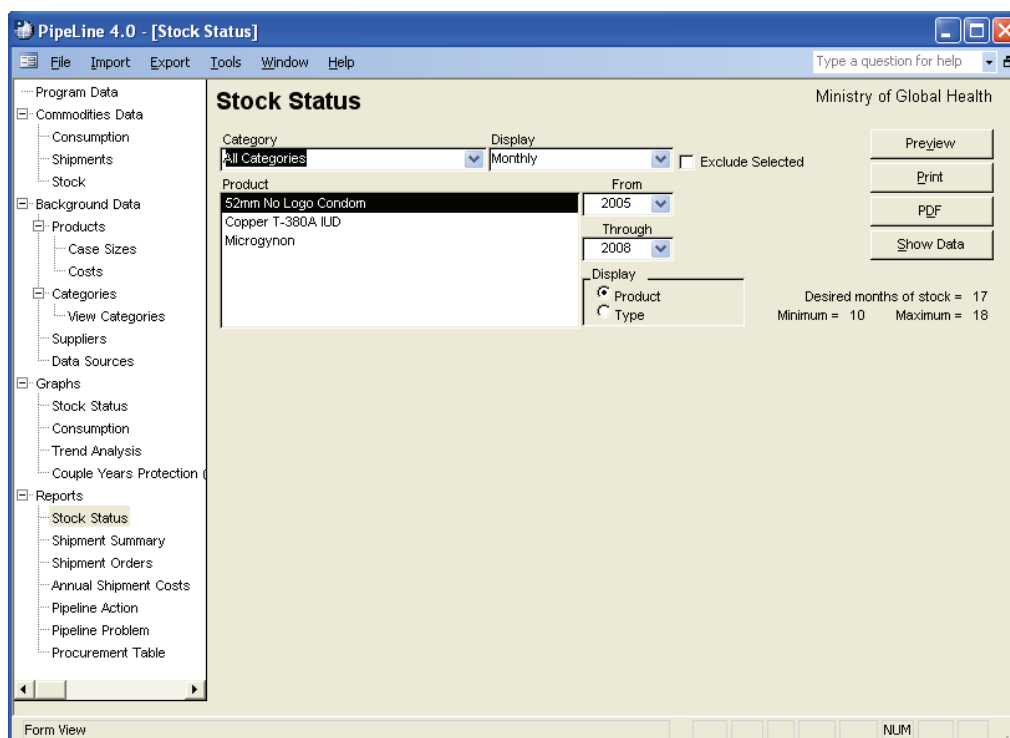

Figure 7-1—Stock Status screen
1. Click on the Stock Status Tree View option (under Reports) to display the Stock Status screen (see Figure 7-1).